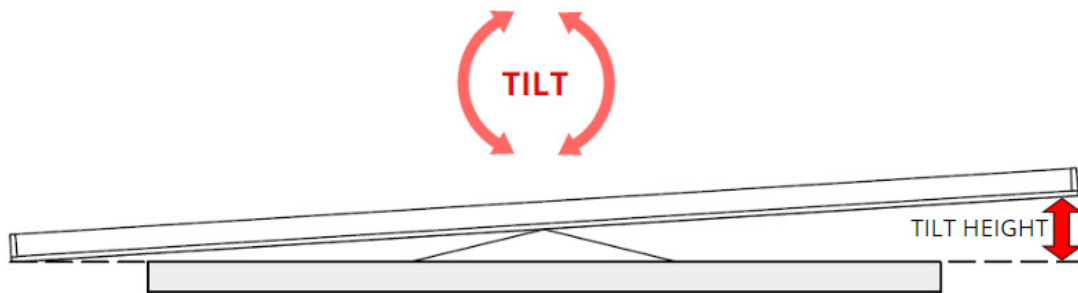

Figure 4. Tilt for Tracks A and B
5. Teams can tilt Tracks A and B in both directions like a seesaw to assist device movement. The tilt is measured from the raised end of the track. (See Figure 4)